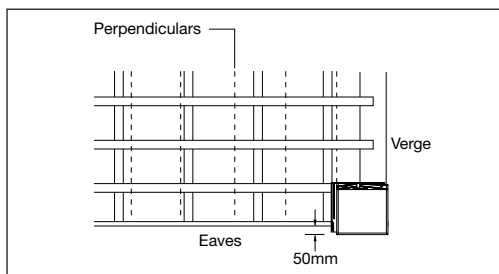

Fig 99 – Fixing eaves course
- Fix eaves course first, always working from right to left, ensuring that eaves course overhangs fascia by 50mm maximum. Draw perpendiculars up roof to ensure good lines are maintained (Fig 99).